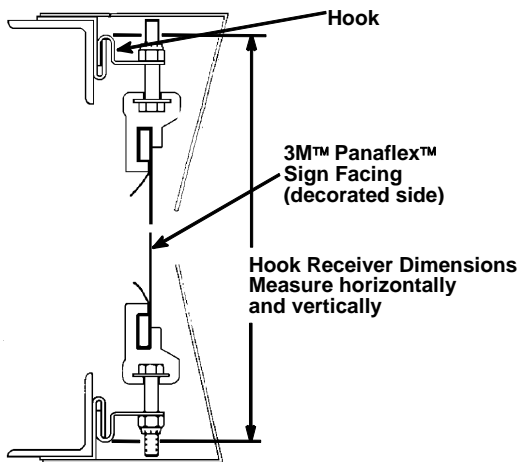

Figure 3. Measure Receiver Dimensions with Hook
- If you are using the hook, measure the receiver dimensions with the hook. See Figure 3.